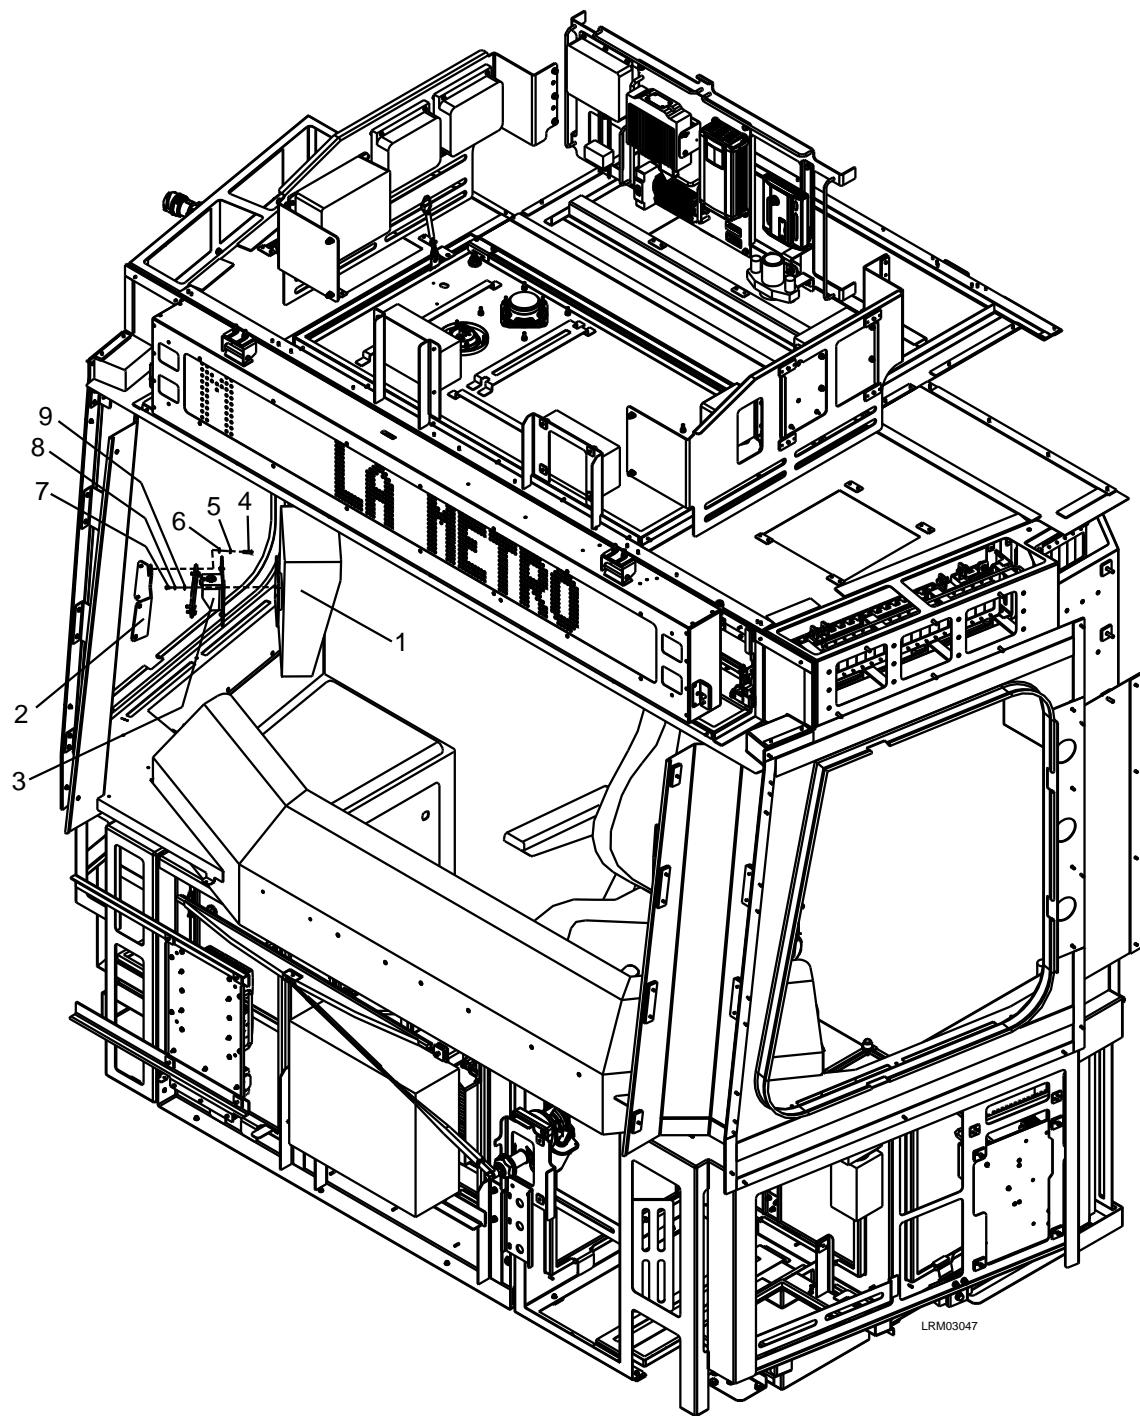

Figure 7-55: Rear View Monitors
2. Remove the four M5 x 16 bolts (4), M5 lock washers (5), and M5 plain washers (6) from the base plate (2). See Figure 7-55.
3. Carefully remove the Rear View Monitor assembly (1).
4. Remove the four M4 x 8 screws (7), M4 lock washers (8), and M4 plain washers (9) from the Rear View Monitor (1) and remove the Bracket Assembly (3).